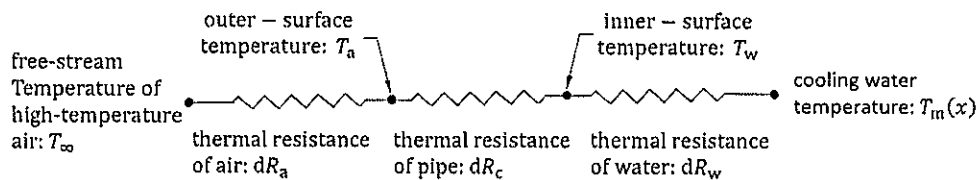

Figure 1-3
- (1) Let the mixed-mean temperature of the cooling water be  $T_m(x)$  at a cross section located by a distance  $x$  downstream of the inlet of the cooling pipe. Consider amount of heat  $dQ$  transferred per unit time between  $x$  and  $(x + dx)$  where  $dx$  denotes a short distance. Express  $dQ$  by three independent equations by using differences in the temperatures, heat transfer coefficients, thermal conductivity, and other quantities defined in the problem statement. We model the heat transfer based on a thermal network model as shown in Figure 1-3. Find thermal resistance of the external air  $dR_a$ , that of the cooling pipe  $dR_c$ , and that of the internal water  $dR_w$ . Since the thickness  $t$  of the pipe is much smaller than the inner diameter  $D$ , the temperature profile between the inner and outer surfaces of the pipe can be approximated as a linear function of the radius and the area of the outer surface can be regarded the same as that of the inner surface.
- (2) Let the mixed-mean temperatures of the cooling water be  $T_m(x)$  at the cross section at  $x$  and  $(T_m(x) + dT_m(x))$  at the cross section at  $(x + dx)$ . Take a control volume encompassed by these two cross sections and the inner surface of the cooling pipe, and consider balance of heat transfer for this control volume. Find the amount of internal energy conveyed per unit time by the cooling water through the cross section at  $x$ . Likewise, find the amount of internal energy conveyed per unit time by the cooling water through the cross section at  $(x + dx)$ . Finally, derive an equation that shows a balance of heat transfer for this control volume.
- (3) Integrate the equation that you found in Question (2) from the inlet through the outlet of the cooling pipe, and find the mixed-mean temperature  $T_1$  of the cooling water at the outlet of the cooling pipe as a function of the mixed-mean temperature  $T_0$  at the inlet of the cooling pipe, density  $\rho$  and specific heat  $C_p$  and cross-sectional average velocity  $U_0$  of the cooling water, temperature  $T_w$  and heat-transfer coefficient  $h_w$  at the inner surface of the cooling pipe, inner diameter of  $D$ , and total length of  $L$ . By using this result, find the total amount of heat  $Q$  that is transferred per unit time from the high-temperature air to the cooling water.
- (4) Let the inner diameter  $D$ , thickness  $t$ , and total length  $L$  of the cooling pipe be respectively, 20 mm, 2 mm, and 1.0 m. Let the mixed-mean temperature  $T_0$  at the inlet and cross-sectional average velocity  $U_0$  of the cooling water be respectively, 20 °C and 1.0 m/s. Let the free-stream temperature  $T_\infty$  and velocity  $U_\infty$  of the high-temperature air be respectively, 80 °C and 10 m/s. Under these conditions, the Nusselt number  $Nu_w$  at the inner surface of the cooling pipe is proportional to the 0.8th power of the cross-sectional average velocity  $U_0$  and takes a value of 140. The Nusselt number  $Nu_a$  at the outer surface of the cooling pipe is proportional to the 0.6th power of the free-stream velocity  $U_\infty$  of the high-temperature air and takes a value of 60. These Nusselt numbers are based on the inner diameter  $D$  of the cooling pipe. Under these conditions, among the three thermal resistances that you found in Question (1), which one becomes the most dominant? Describe how the total amount of heat  $Q$  that is transferred per unit time from the high-temperature air to the cooling water changes according to the change in the cross-sectional average velocity  $U_0$  of the cooling water and the free-stream velocity  $U_\infty$  of the high-temperature air. Use the values listed in Table 1-1 for approximate thermal properties if they are needed.